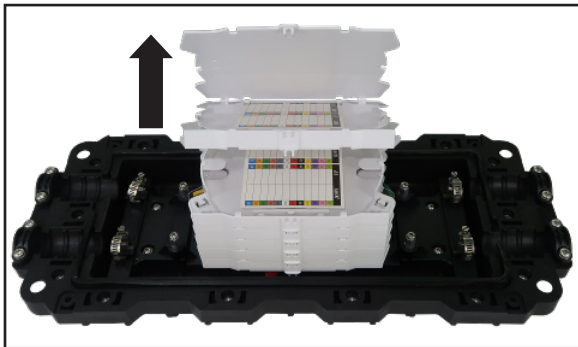

Figure 1-2: Turn over all the trays
- 1 Unlock the limiting button to turn over all the splicing trays from the bottom (Figure 1-2).